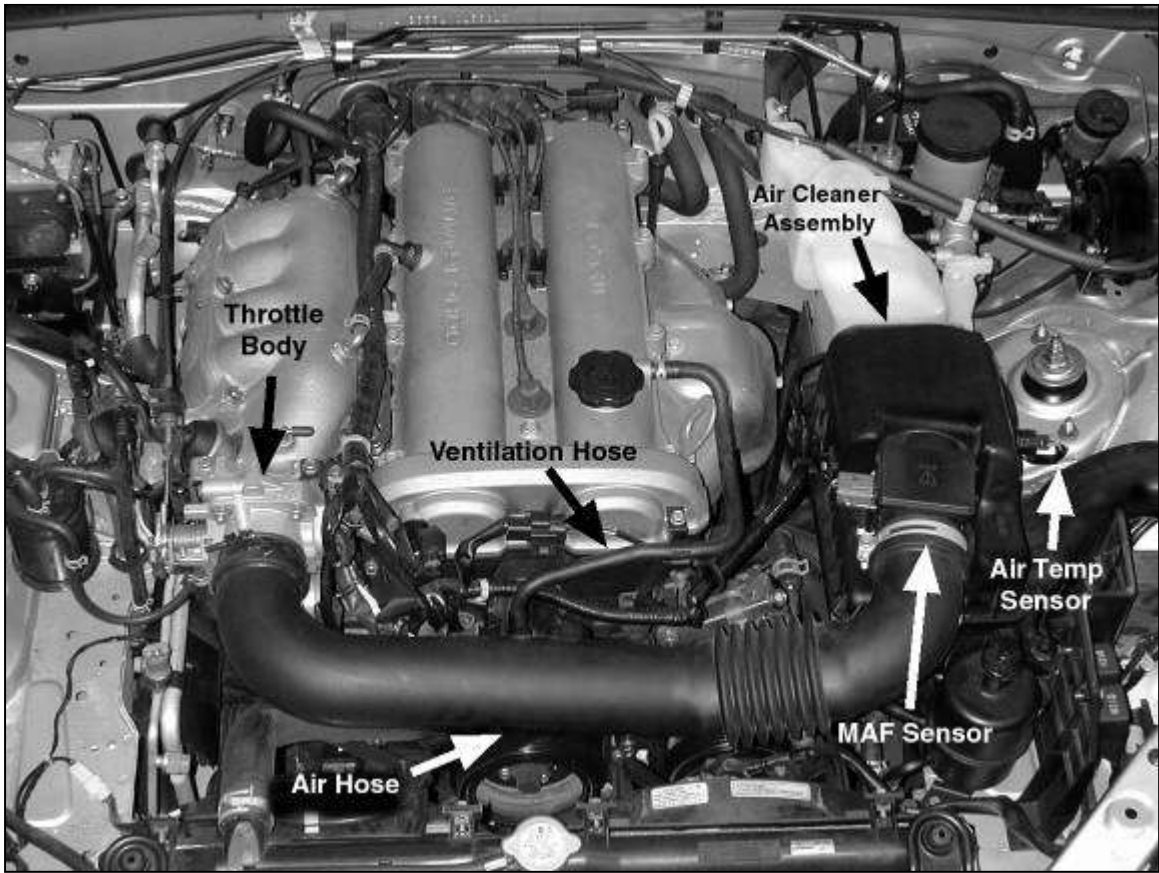

Fig. 1
- a. Refer to diagram (Fig. 1) on page 5 for the identification of these components: ventilation hose, intake air temp. sensor and the mass air flow sensor (MAF).